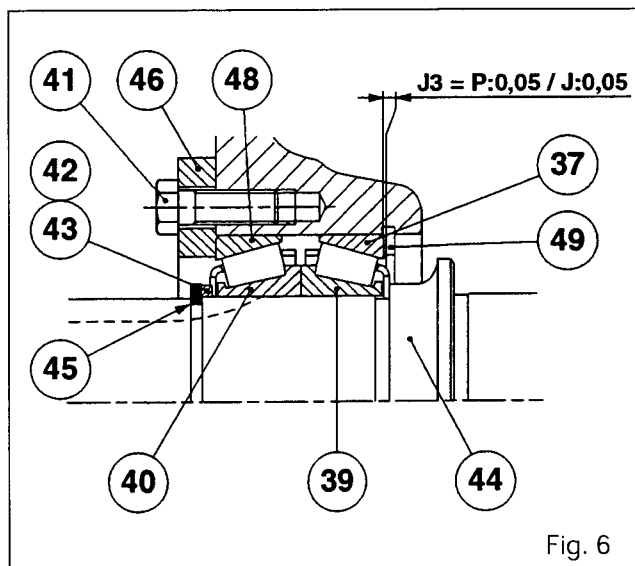

Fig. 6
27. If the end play measured is greater than 0.05 mm, determine the thickness of circlip (49) required to obtain J3 (Fig. 6).
28. Remove the circlip (45).
29. Remove the packing shim (43) and the adjusting shims (42).
30. Remove the bolts (41) and the locking ring (46).
31. Remove cup (48), cones (40) and (39), keeping the cups and cones in pairs, cup (37), the circlip (49) and the shaft (44).